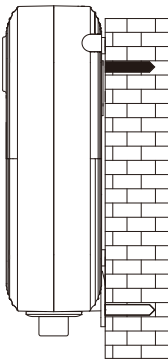
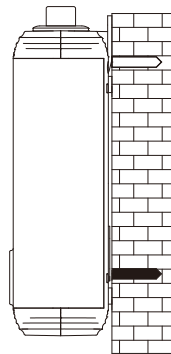

Figure 7
Figure 8
Step 4: Fix the appliance to the wall with the fixed nail (Figure 7) (Figure 8).